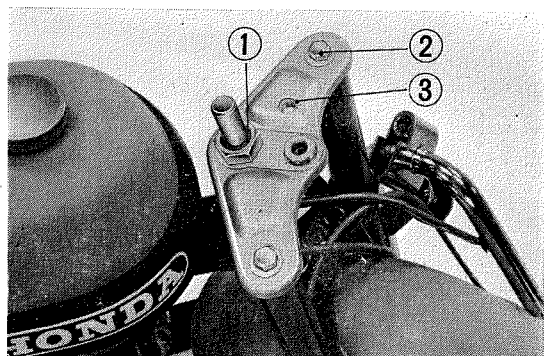

Fig. 63 ① Steering stem nut ② Fork top bolt ③ Fork top bridge
5. Unscrew the steering stem nut and two 10 mm bolts to remove the fork top bridge. (Fig. 63)